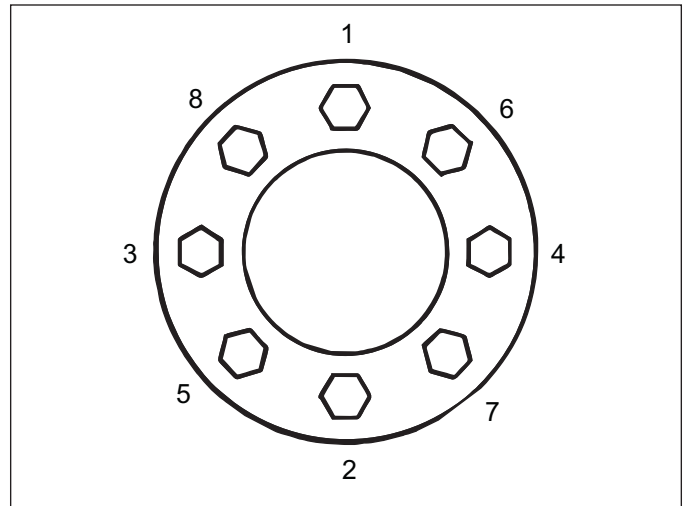

Figure 2-7: Stud Tightening Sequence
2. Re-Install the 3/4-16 Flange Nuts and tighten to 50 ft-lbs using the sequence in Figure 2-7. Then tighten to full torque of 220 ft-lbs.